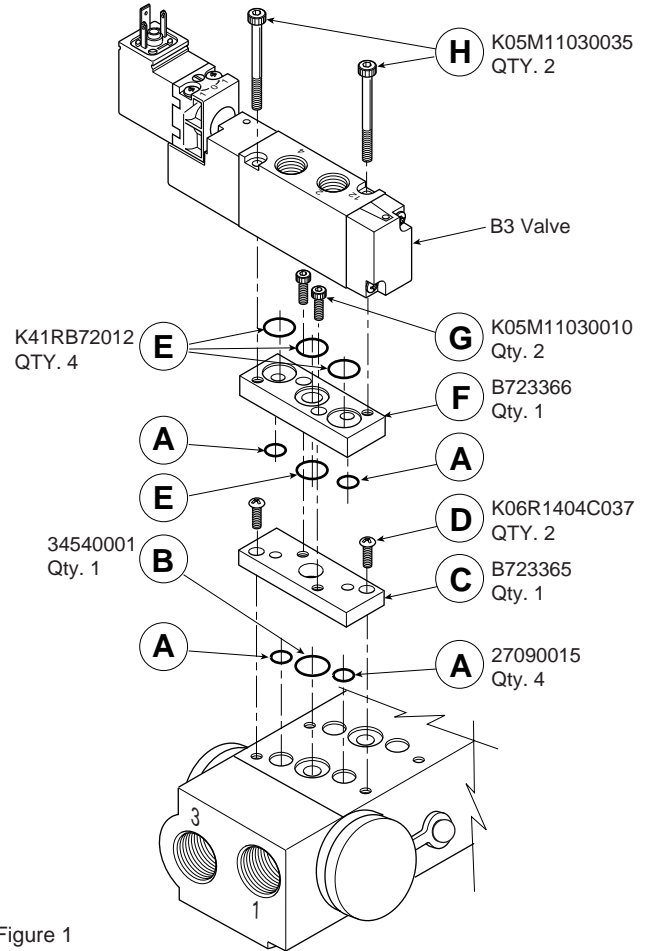

Figure 1
Installation Instructions (See Figure 1)
1. Remove the holding screw (A) from the cable plug and pry the contact holder (B) from the plug case (C). (Figure 1).